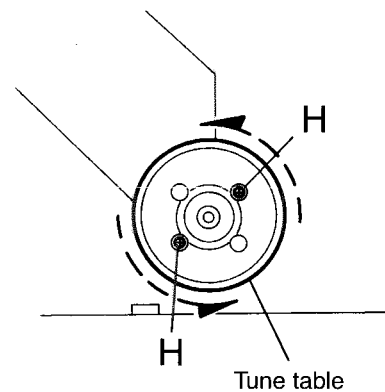

Fig.16
2. While turning the turntable, remove the two screws H retaining the spindle motor and take out the spindle motor (See Fig. 16.)